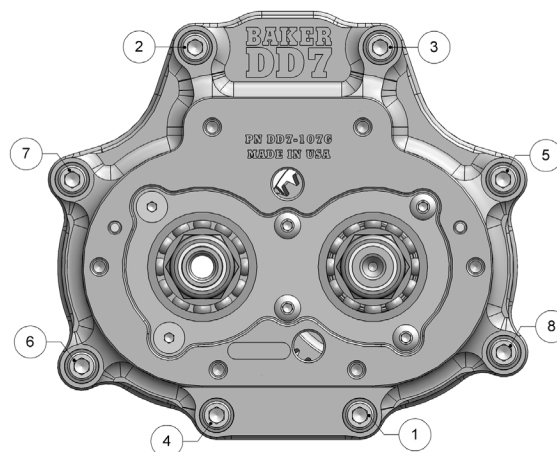

FIGURE 28 | TORQUE SEQUENCE FOR DD7 BEARING DOOR BOLTS
- Install the eight stainless steel cap screws and washers (rounded side down) onto the bearing door using blue threadlocker. Be sure to replace the exhaust bracket beneath the bottom inner bolts. Torque to 22 – 25 ft-lb using the torque sequence in figure 28. You may remove the zip tie from the shifter pawl and the black rubber cap from the mainshaft at this time.